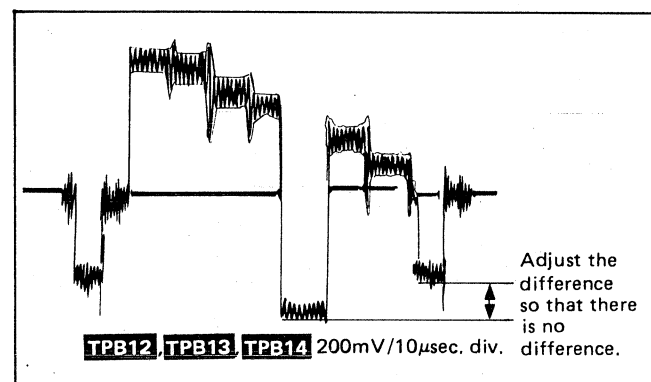

Fig. 14
4. Adjust R5143 (R-Pulse Level) so that the waveform **TPB12** becomes as shown in Fig. 14.
6. Adjust R5142 (G-Pulse Level) so that the waveform **TPB13** becomes as shown in Fig. 14.
8. Adjust R5144 (B-Pulse Level) so that the waveform **TPB14** becomes as shown in Fig. 14.